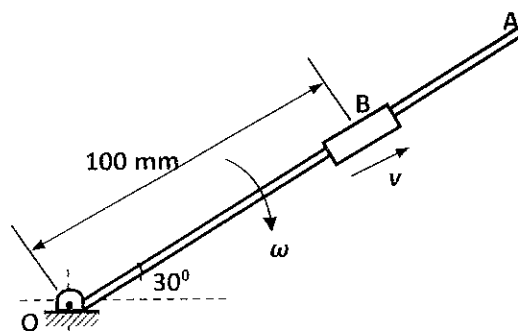

Fig. Q1(a)
- (a) **Fig. Q1(a)** shows a link OA rotating about O with a uniform angular velocity $\omega = 20$ rad/s and a block B sliding along OA with a uniform velocity $v = 2$ m/s. Determine the magnitude and direction of the absolute acceleration of B.